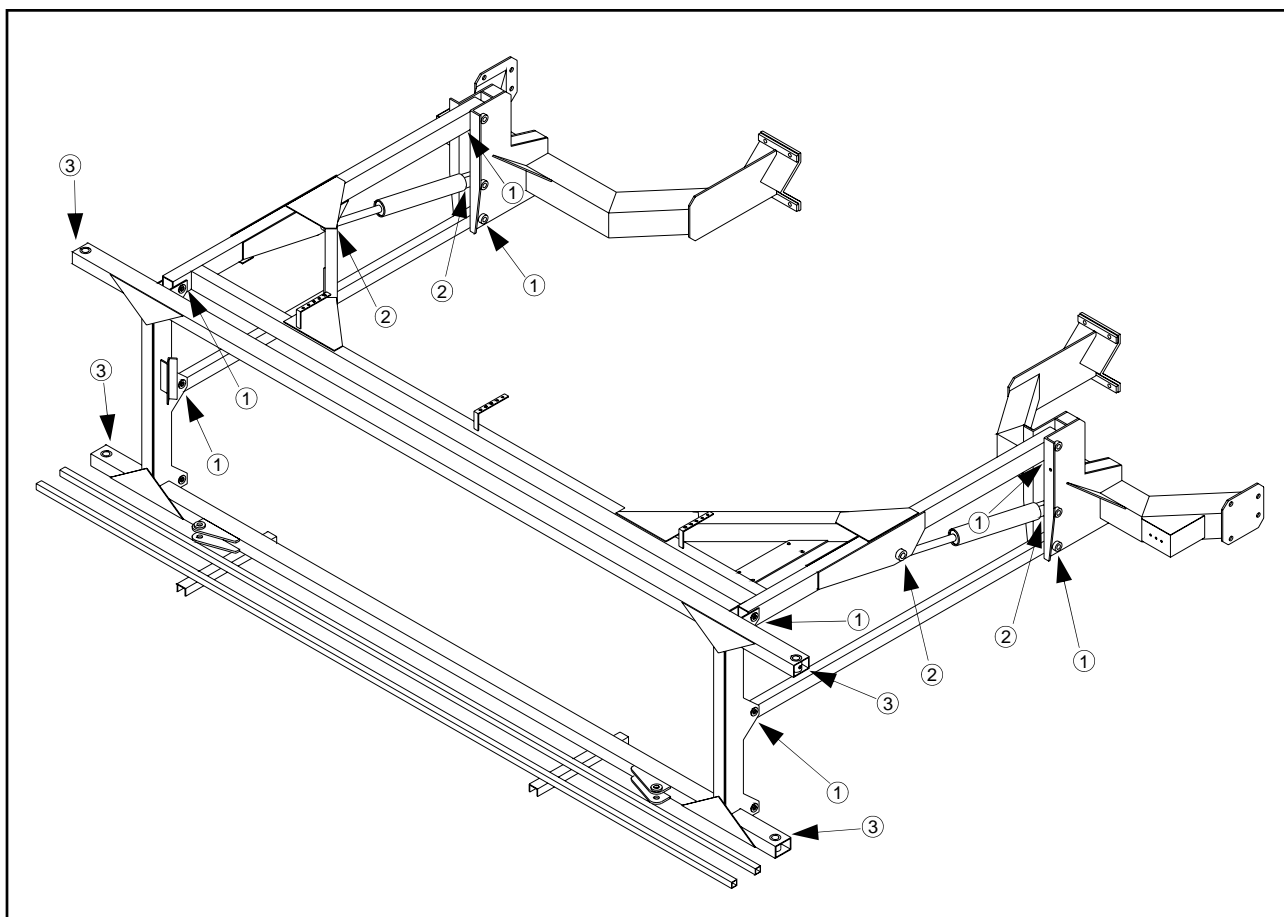

FIG 8.31
**Lift arm lift pivots:** eight places (fig. 8.31, items 1)
**Lift cylinder pivots:** four places (fig. 8.31, items 2)
**Boom fold pivots on transom:** four places (fig. 8.31, items 3)